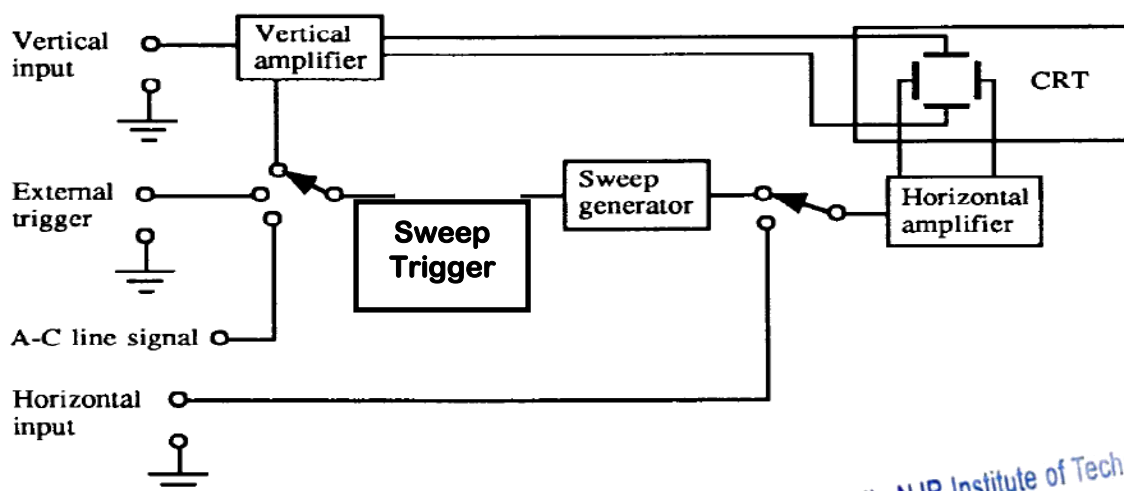

Fig 1.2 Block Diagram of Oscilloscope
**CRO Operation:** A simplified block diagram of a typical oscilloscope is shown in Fig. 1.2. In general, the instrument is operated in the following manner. The signal to be displayed is amplified by the vertical amplifier and applied to the vertical deflection plates of the CRT. A portion of the signal in the vertical amplifier is applied to the sweep trigger as a triggering signal. The sweep trigger then generates a pulse coincident with a selected point in the cycle of the triggering signal. This pulse turns on the sweep generator, initiating the sawtooth wave form. The sawtooth wave is amplified by the horizontal amplifier and applied to the horizontal deflection plates. Usually, additional provisions signal are made for applying an external triggering signal or utilizing the 60 Hz line for triggering. Also the sweep generator may be bypassed and an external signal applied directly to the horizontal amplifier.